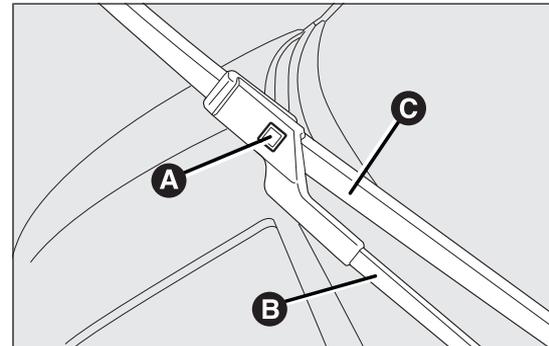

fig. 142
- raise the windscreen wiper arm A fig. 142 and position the blade so that it forms an angle of 90° with the arm;
- press the button A and extract the blade C fig. 142 from the arm B fig. 142;